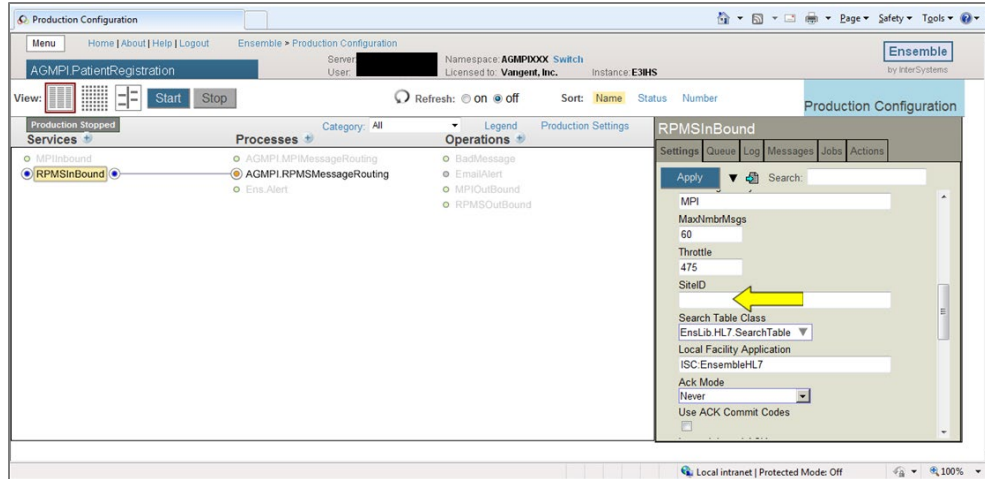

Figure 5-18: RPMSInBound settings
1. Click **RPMSInBound** on the **Production Configuration** page to display the RPMSInBound configuration settings, as shown in Figure 5-18.